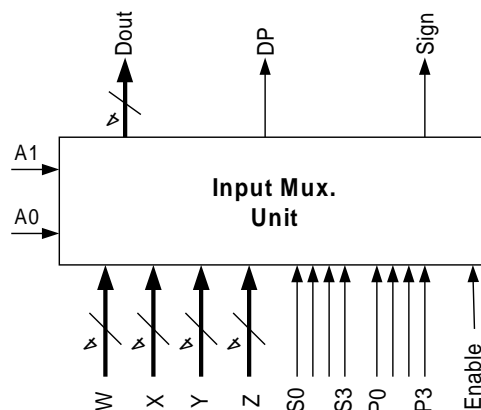

Figure 13
16. Figure 13 shows the basic function for this unit. Four 4-bit inputs (W , X , Y , Z) and their associated signs and decimal points are multiplexed to the outputs based on control inputs $A1$ $A0$. Design a circuit for this purpose. You can use a single bit, four to one multiplexer unit (M4_1E) provided by the library.